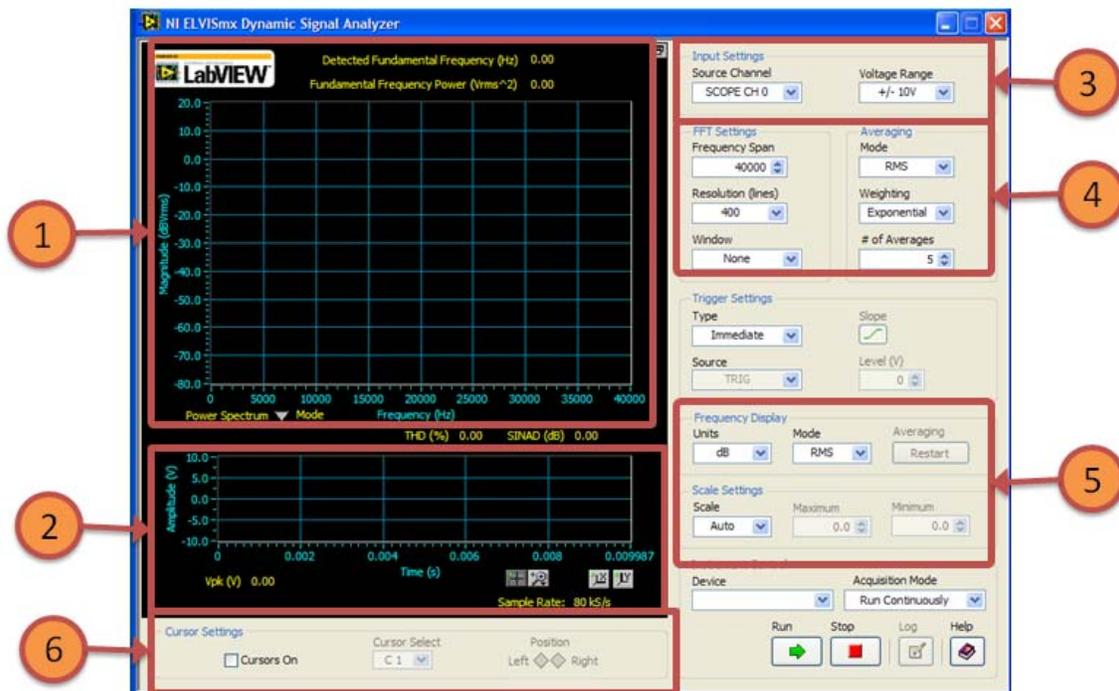

Figure 10. DSA SFP with important controls labeled
The dynamic signal analyzer is an instrument performs a frequency domain transform of a signal. The NI ELVISmx Dynamic Signal Analyzer consists of a single channel, which can automatically connect to up to ten (10) sources. It can continuously makes measurements or take a signal scan. Shown below is the DSA SFP in Figure 10, as well as an explanation of the important controls.